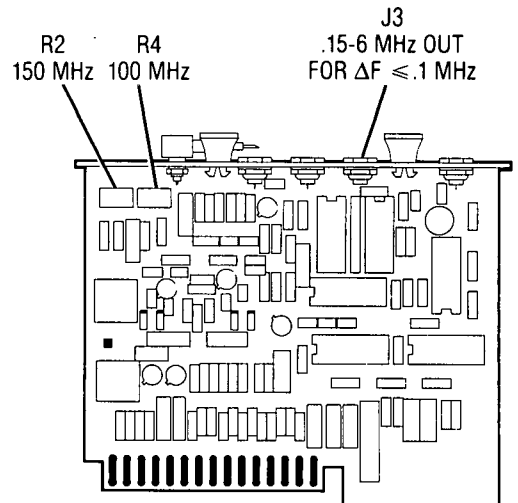

Figure 5-10. Location of PLL2 Adjustments
6. Adjust A40R2 (150 MHz) for a DVM indication of +3.0 Vdc \pm 0.5 Vdc. Refer to Figure 5-10 for location of adjustments.